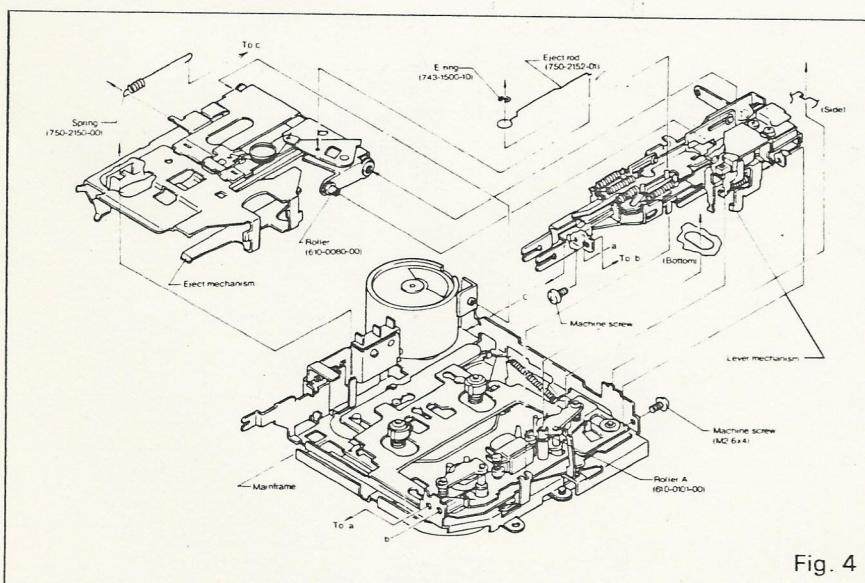

Fig. 4
1. Eject, Lever Mechanism (See Fig. 4)
* Refer to Fig. 4 for the mounting position of the motor.